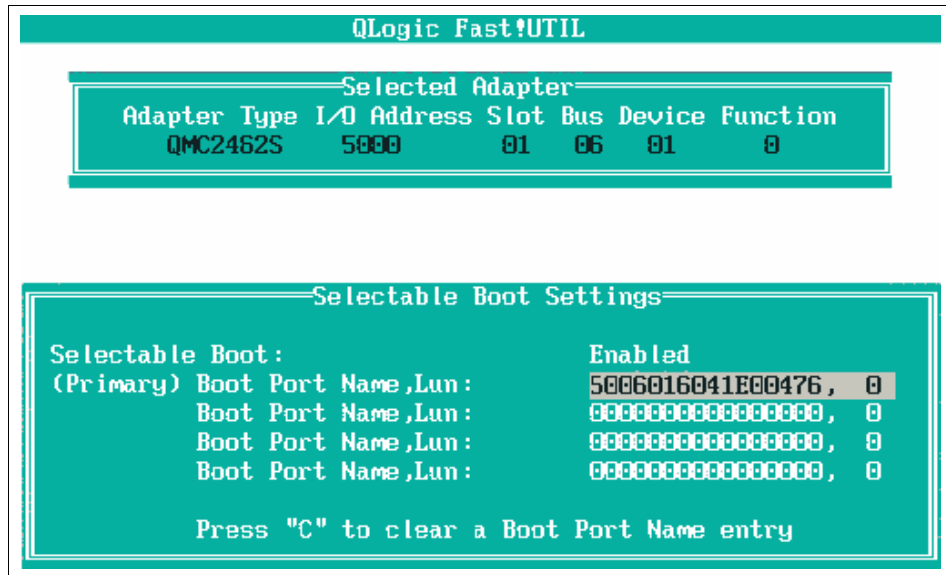

Figure 8-50 Selectable Boot Settings window
- The CLARiiON Storage WWN is identified under Port Name. Highlight it and press Enter. You will see a window similar to Figure 8-50.